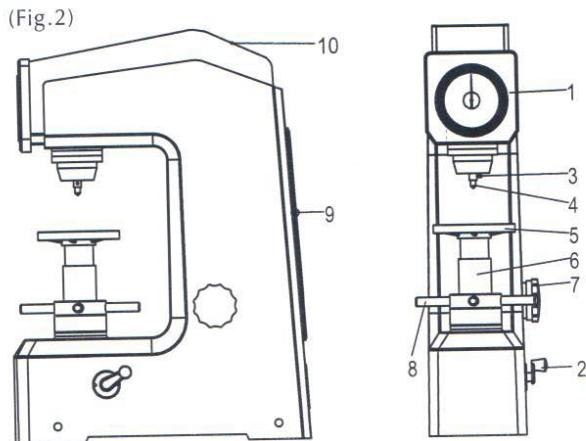

Fig. 2
3.2.4 After the hardness tester is properly placed (Fig.2), open the Upper Cover (10) and the Back Cover (9). Untie the fastening rubber tape (Fig.13) on the Connecting Rod (23) and draw out the foam block under Protecting Gasket (26) and Lever (16). Untie all the white gauze on moving parts and then cover the tester to keep clean and free of dust.
- a. Ensure the “Load apply” handle (2, Figure 2) is set to the unloading position.